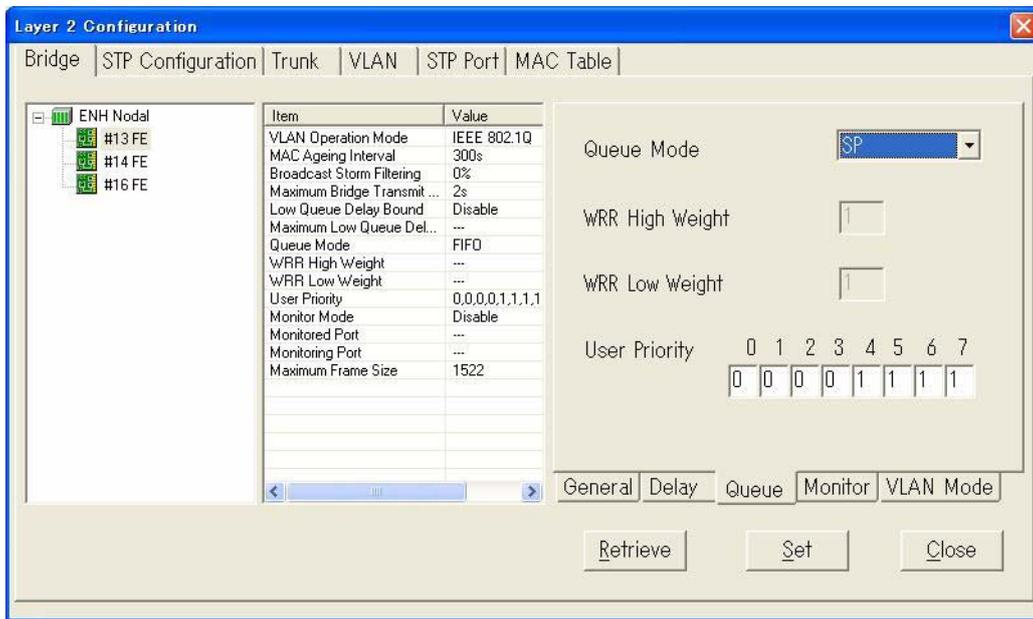
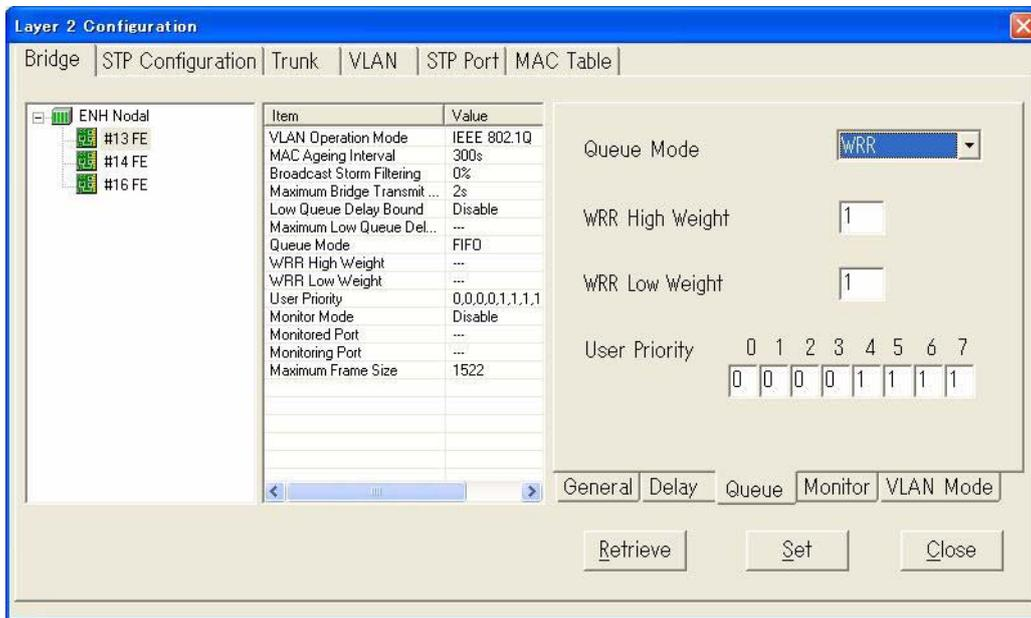
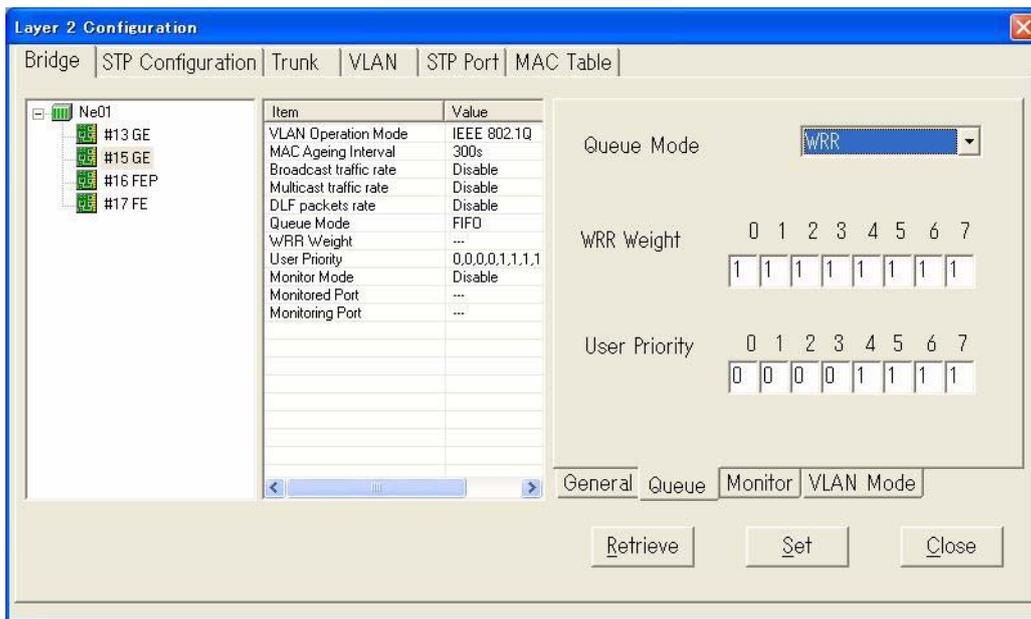

Fig. 4-4-46 SP Selection (FE Card)
Fig. 4-4-47 WRR Selection (FE card)
Fig. 4-4-48 WRR Selection (GE card)
- ii When SP is selected, the order of queue ingress and egress is decided by its priority, namely it is only after all the queues with higher priority are sent out that the queues with lower priority begin to be sent out. The window is shown in Fig. 4-4-46. For FE board, in the figure User Priority of 8 (0-7) kinds of frames may be set as 0 (low user priority) or 1 (high user priority). And for GE board, in the figure User Priority of 8 (0-7) kinds of frames may be set as 0 (low user priority) or 7 (high user priority).
- For FE card, the order of queue ingress and egress is decided by its priority and “weight”. The weight may be rough regarded as the bandwidth possessed by high priority or low priority. The larger value of the weight, the more the bandwidth possesses. The window is shown in *Fig. 4-4-47*. In the figure **User Priority** setting is same to that of *Fig. 4-4-46*. **WRR High Weight** and **WRR Low Weight** may be set a value from 1 to 7 to specify package speed ratio of high user priority (1) and low user priority (0).
- For GE board, the order of queue ingress and egress is decided by its priority and "weight". The bandwidth of each queue is assigned by the configured priority weight. The larger value of the weight, the more the bandwidth possesses. The window is shown in Fig. 4-4-48. In the figure User Priority setting is same to that of Fig. 4-4-47. WRR Weight may be set a value from 1 to 15 to specify package speed ratio of low user priority (0) to high user priority (7).